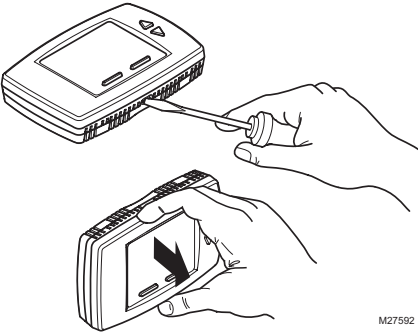

Fig. 22. Removing the thermostat.
- If it is necessary to remove the thermostat from the sub-base, refer to Fig. 22 on page 9 and perform the following steps: